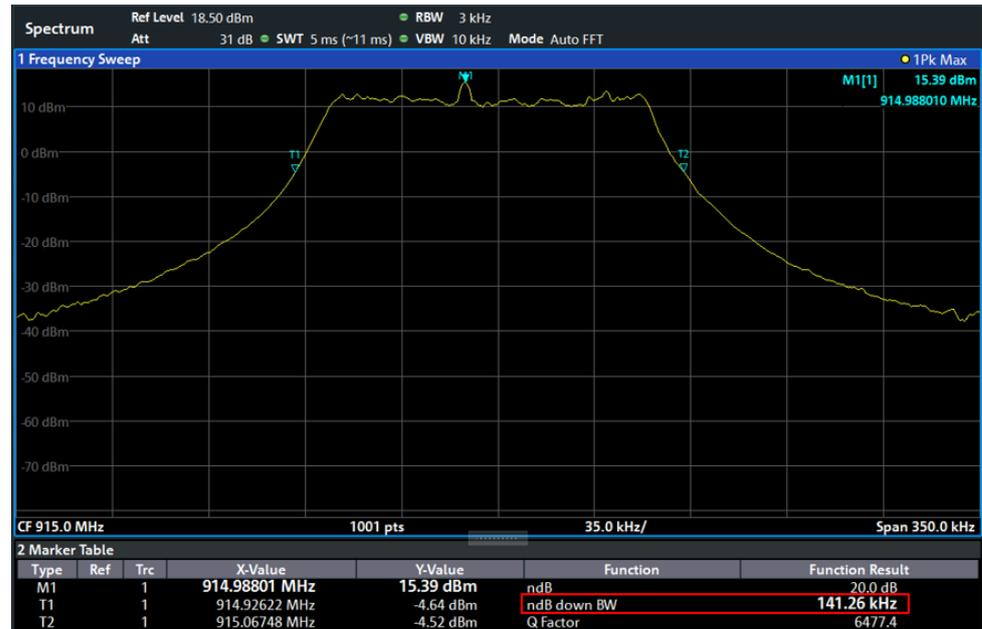

Figure 2-17: Measurement of 20 dB bandwidth, LoRa signal bandwidth 125 kHz, SF = 7
31. Press the *Mkr* key and select *Select Marker Function*. In the *Markers* tab, select *n dB down* and enter 20 dB in the *Value* entry field. Wait until the trace is stable. If necessary, use the measured value for the 20 dB bandwidth (*n dB down BW*) to adjust the span and resolution bandwidth in line with the conditions named above. Wait until the trace has stabilized. Figure 2-17 shows the result of the measurement.